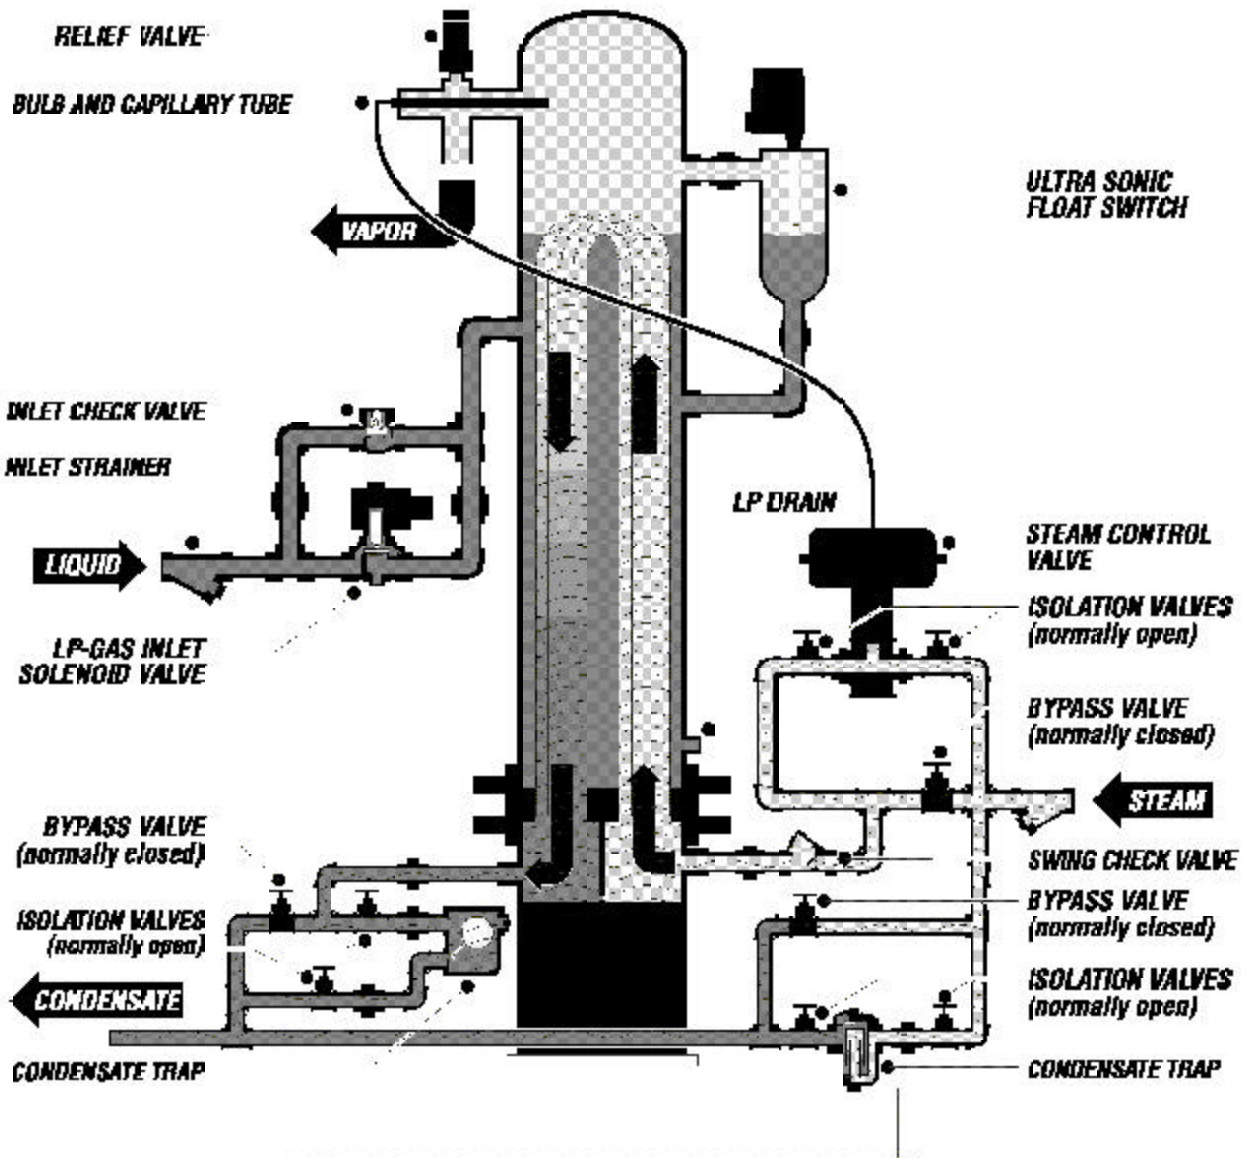

Figure 3-1 - General Schematic for VS Series Vaporizers
| Figure 3-1 - General Schematic | 4 |
3.01 Figure 3-1 illustrates the general schematic for VS Vaporizers and is functionally equivalent for all VS Series Vaporizers.